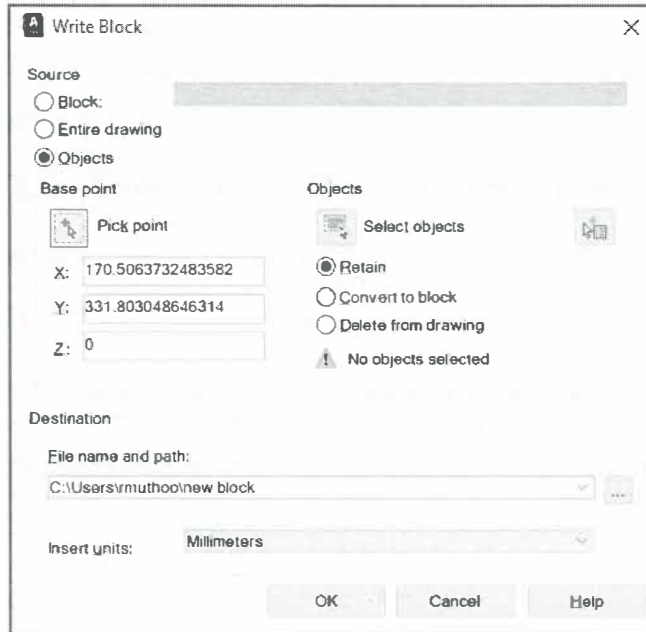

Figure 5–5
1. In the *Insert* tab>Block Definition panel, expand the Create Block flyout and click  (Write Block). The Write Block dialog box opens, as shown in Figure 5–5.